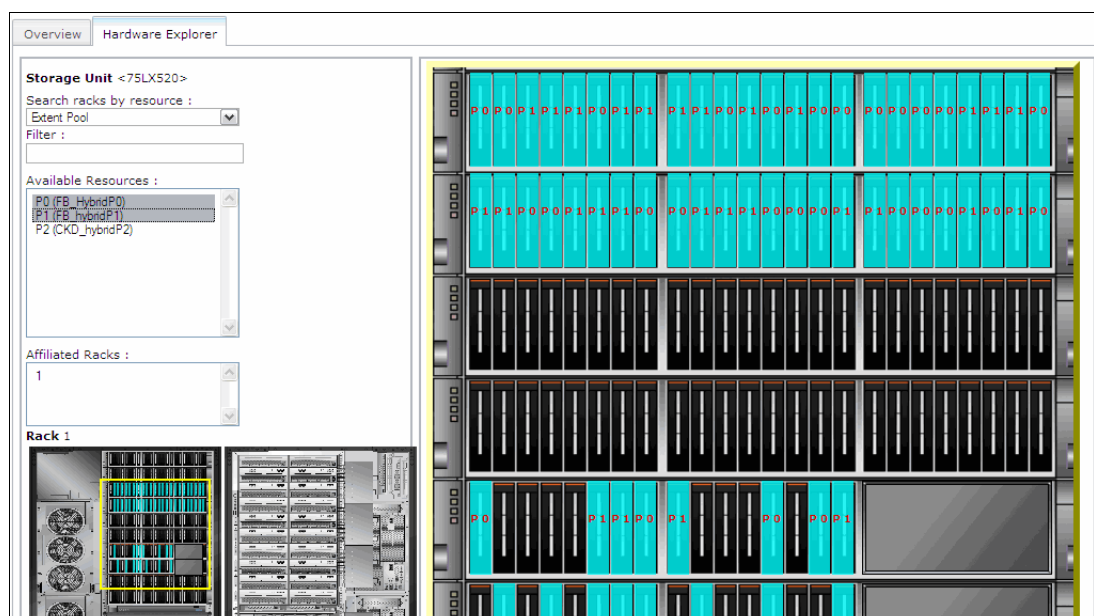

Figure 13-72 View Extent Pools
- Change the search criteria to Extent Pool to discover more about each extent pool location. Select as many extent pools as you need in the Available Resources section and find the physical location of each one as shown in Figure 13-72.